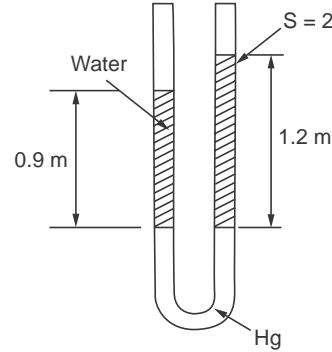

Figure E. 2.7
**E.2.7.** In a U-tube shown in Fig. E.2.7, open to atmosphere at both ends, a column of 0.9 m of water balances a column of 1.2 m of an unknown liquid. Determine the specific gravity of the unknown liquid. **[0.75]**